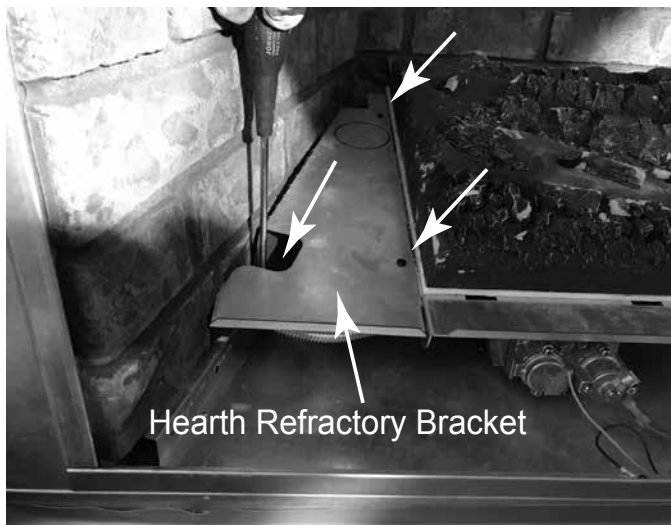

Figure 11.11
- Install Left & Right Side Hearth Refractory Brackets, as shown, and secure with (3) screws each. See Figure 11.11.